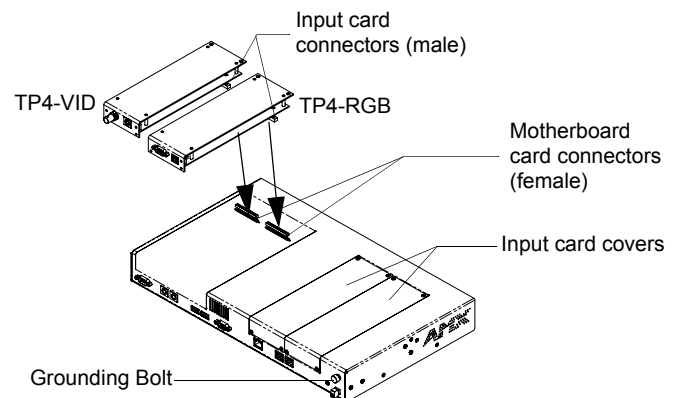

FIG. 2 Installing Input Cards
4. Carefully connect the input card by inserting the male card connectors vertically down onto the female input connectors on the motherboard, as shown in FIG. 2.